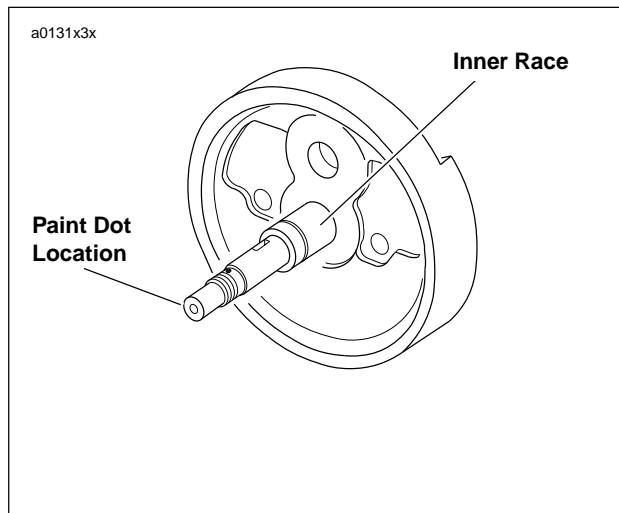

Figure 3-126. Factory Inner Race Paint Dot Location
14. See Figure 3-126. Installed inner races are identified at the factory as shown.